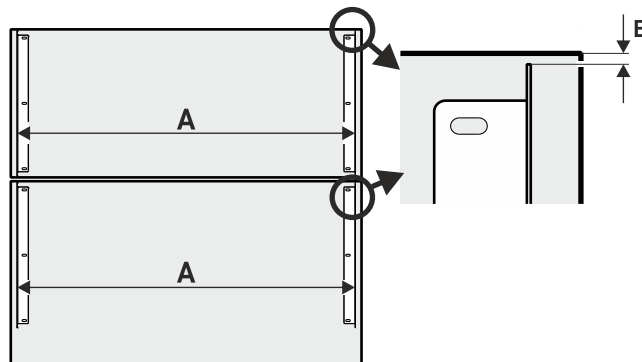

Fig. 37
- ▶ Install the mounting bracket accounting for the distance Fig. 37 (A) and distance Fig. 37 (B).